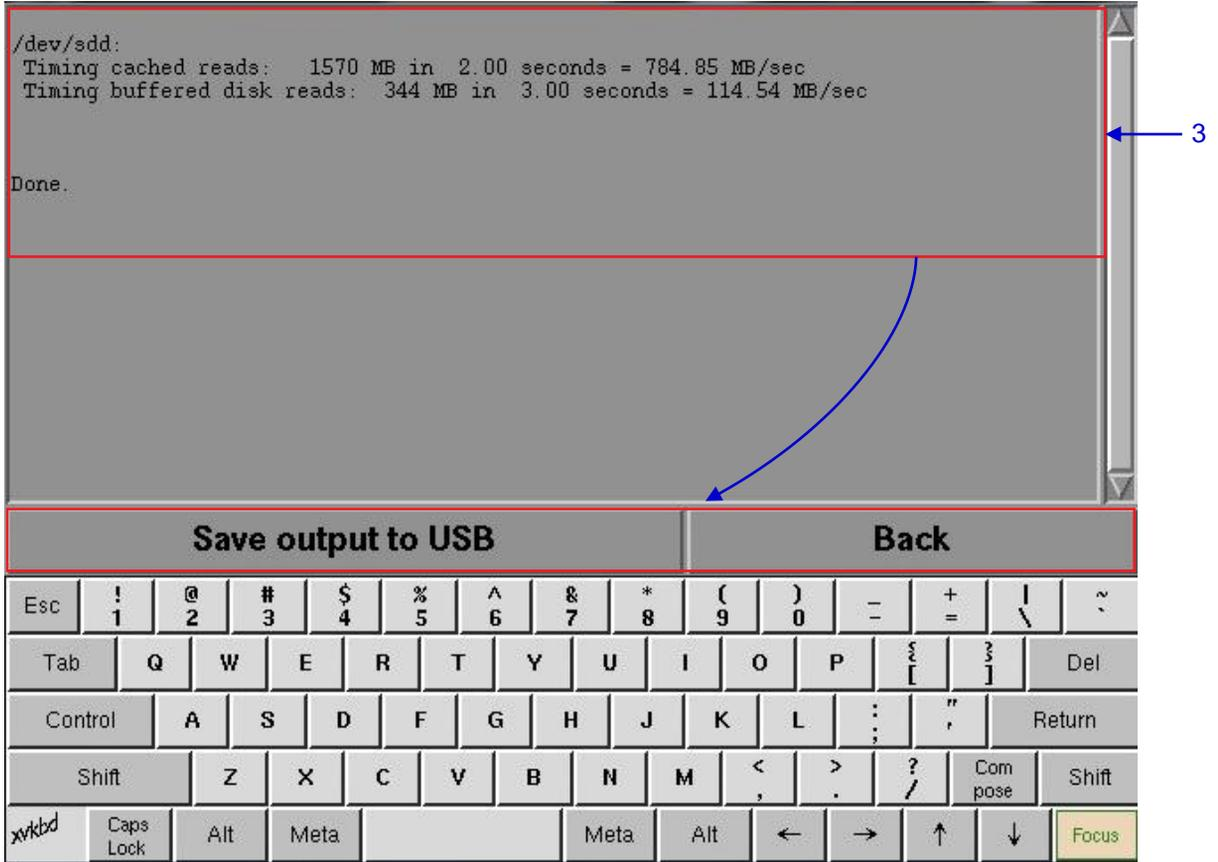

Figure 95 Shows information on storage performance of the selected hard disk.
- 3** A new window showing information on hard disk performance appears as seen in **Figure 95**.